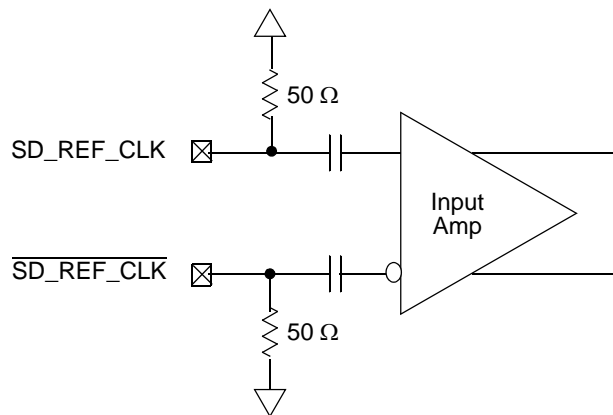

Figure 39. Receiver of SerDes Reference Clocks
Figure 39 shows a receiver reference diagram of the SerDes reference clocks.
- The SD_REF_CLK and $\overline{SD_REF_CLK}$ are internally AC-coupled differential inputs as shown in Figure 39. Each differential clock input (SD_REF_CLK or $\overline{SD_REF_CLK}$) has a 50- Ω termination to XCOREVSS followed by on-chip AC-coupling.